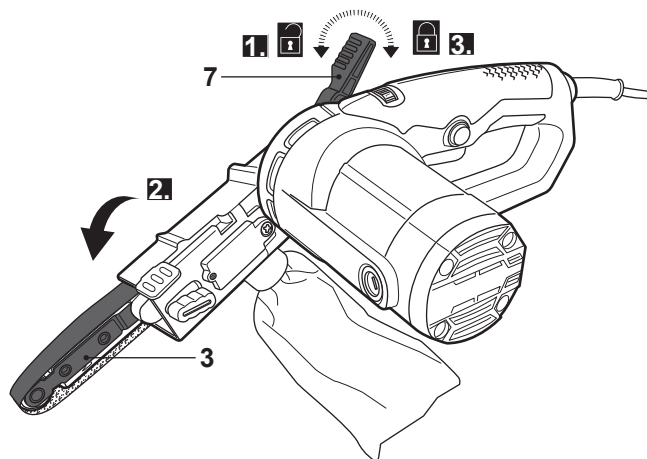

Fig. 15
- > Pull the locking lever (7) forward (Fig. 15, step 1).
- > Move the sanding arm (3) downward to the required position (Fig. 15, step 2).
- > Press the locking lever (7) back in with slight pressure (Fig. 15, step 3). Do not overtighten.